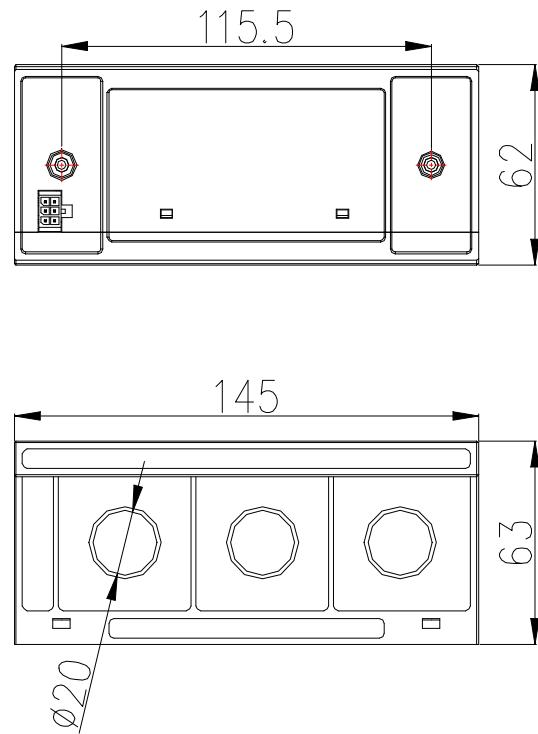

Figure 5 The external dimensions of Integrated/split current transformer (100A and below current specification)
5.3.1 The external dimensions of Integrated/split current transformer (100A and below current specification)are shown in figure 5(Unit: mm):